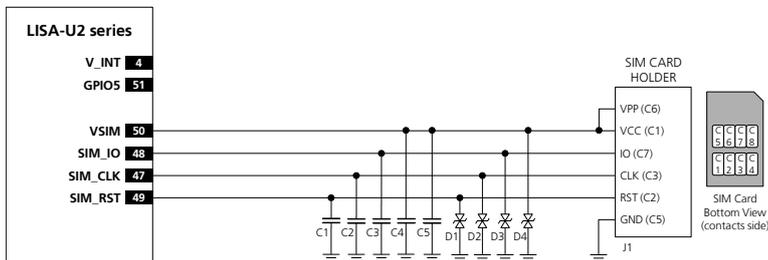
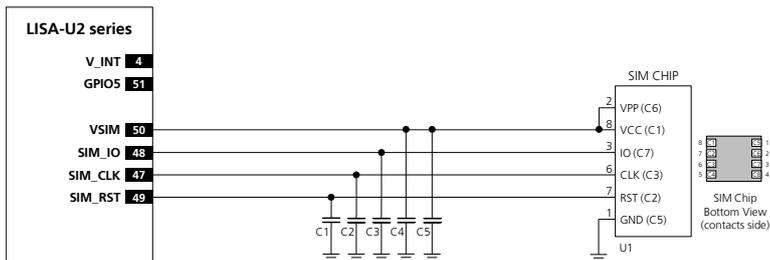
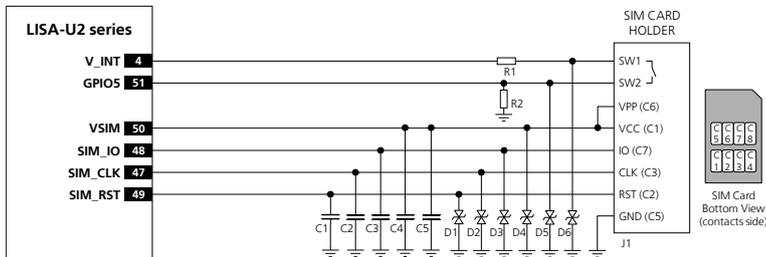
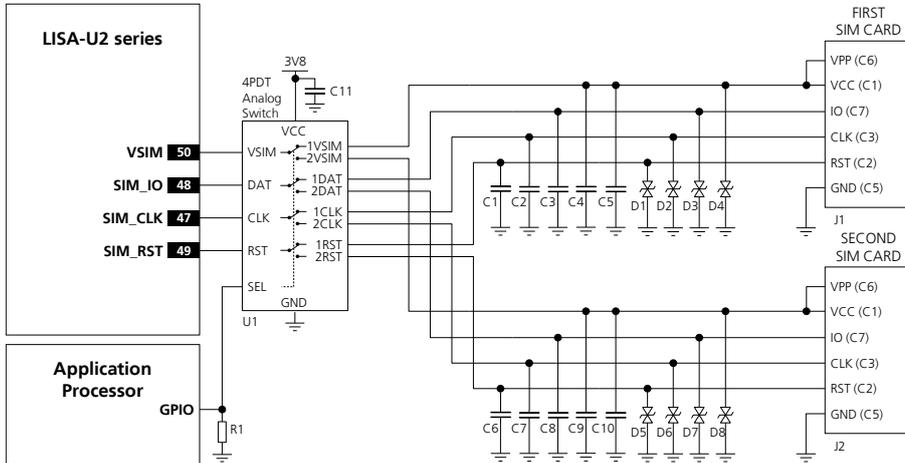

Figure 21: Application circuit for the connection to a single removable SIM card, with SIM detection not implemented
Figure 22: Application circuit for the connection to a single solderable SIM chip, with SIM detection not implemented
Figure 23: Application circuit for the connection to a single removable SIM card, with SIM detection implemented
Figure 24: Application circuit for the connection to two removable SIM cards, with SIM detection implemented
A removable SIM card placed in a SIM card holder must be connected to the SIM card interface of LISA-U2 modules as described in Figure 21, where the optional SIM detection feature is not implemented (see the circuit described in Figure 23 if the SIM detection feature is required).
A solderable SIM chip (M2M UICC Form Factor) must be connected to the SIM card interface of LISA-U2 modules as described in Figure 22, where the optional SIM detection feature is not implemented (see the circuit described in Figure 23 if the SIM detection feature is required).
A removable SIM card placed in a SIM card holder must be connected to the SIM card interface of LISA-U2 modules as described in Figure 23, where the optional SIM card detection feature is implemented so that the module detects by means of the **GPIO5** if a SIM card is present in the connector. The SW1 and SW2 pins of the SIM card holder are connected to a normally-open mechanical switch integrated in the SIM connector. The following cases are available:
- Connect one pin of the mechanical switch integrated in the SIM connector (e.g. the SW2 pin as described in Figure 23) to the **GPIO5** input pin of the module
- Connect the other pin of the mechanical switch integrated in the SIM connector (e.g. the SW1 pin as described in Figure 23) to the **V\_INT** 1.8 V supply output of the module by means of a strong (e.g. 1 k $\Omega$ ) pull-up resistor, as the R1 resistor in Figure 23
- Provide a weak (e.g. 470 k $\Omega$ ) pull-down resistor at the SIM detection line, as the R2 resistor in Figure 23
Two SIM cards / chips can be connected to the module's SIM interface, as described in the circuit of Figure 24.
LISA-U2 modules do not support the usage of two SIMs at the same time, but two SIMs can be populated on the application board providing a proper switch to connect only the first SIM or only the second SIM per time to the SIM interface of the modules as described in Figure 24.
In the application circuit represented in Figure 24, the application processor will drive the SIM switch using its own GPIO to properly select the SIM that is used by the module. Another GPIO may be used to handle the SIM hot insertion / removal function of LISA-U2 series modules, which can also be handled by other external circuits or by the cellular module GPIO according to the application requirements.
The dual SIM connection circuit described in Figure 24 can be implemented for SIM chips as well, providing proper connection between SIM switch and SIM chip as described in Figure 22.
If it is required to switch between more than two SIMs, a circuit similar to the one described in Figure 24 can be implemented: for example, in case of four SIM circuits, using a proper 4-pole 4-throw switch (or, alternatively, four 1-pole 4-throw switches) instead of the suggested 4-pole 2-throw switch.